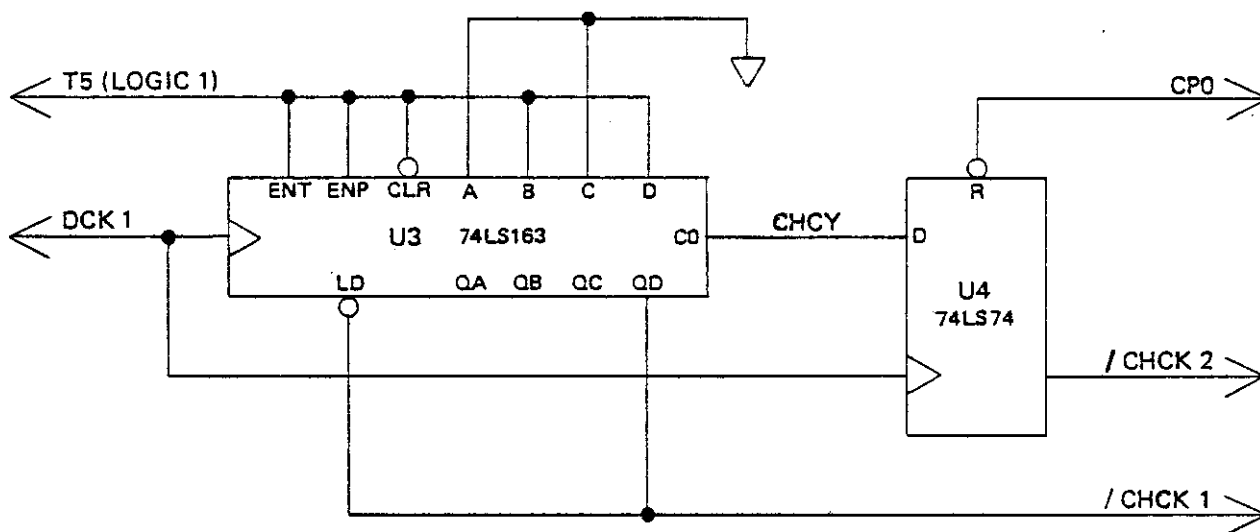

FIGURE III-6 CHARACTER CLOCK
2) CHARACTER CLOCK: The character dot matrix is seven dots wide so the character clock frequency is one-seventh that of the dot clock. It is generated by dividing DCK1 with a 74LS163 configured as a modulo-7 counter (Figure III-6). The counter is pre-loaded with a count of 10 then allowed to count through 15 overflowing to a count of zero. The QD output pulls the /LOAD input low causing a count of 10 to be again loaded. The QD output is high for the first six states and low only for the seventh (zero) state. This is used as the character clock output /CHCK1. A 74LS74 flip-flop generates a signal at half the frequency of /CHCK1, i.e., the required character clock for double-wide characters /CHCK2. It is a one-bit shift register which is held in the reset state by CP0 (described in the next paragraph) during the first half of a double wide character. During the second half, the carry output of the 74LS163 CHCY is delayed one period of DCK1 by the 74LS74 to produce /CHCK2. Note that the low-to-high transitions of /CHCK2 are synchronized with the same edge of /CHCK1 and that the leading edge of /CHCK2 has the same timing relationship to DCK2 as /CHCK1 has to DCK1.